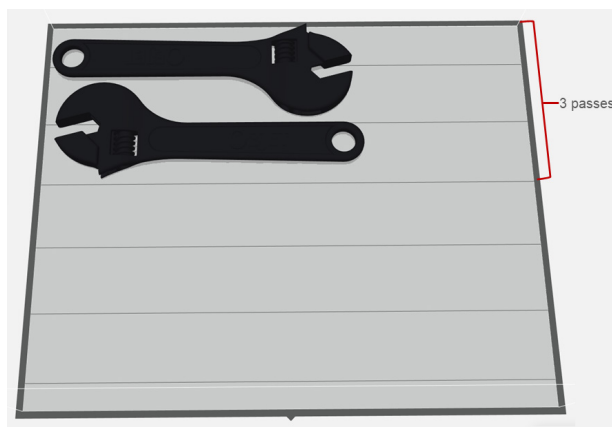

Figure 7: Tray arranged for three printing passes.
- For Agilus30 Clear, White, and Black, when printing in High Speed (HS) mode, arrange the parts on the tray so that they do not exceed three printing passes (Figure 7). This ensures that the ambient temperature in the printing chamber required for maintaining part quality, remains stable.